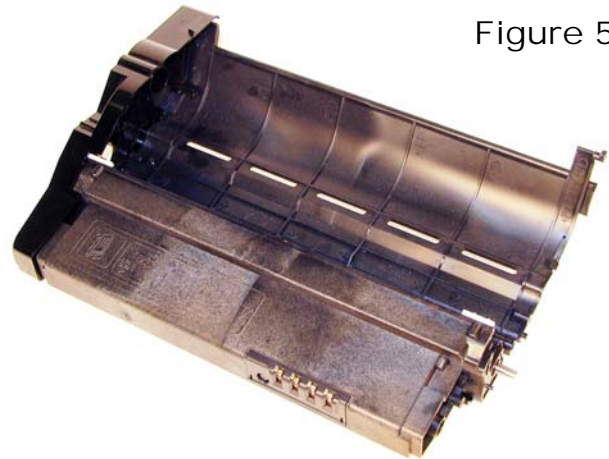

Figure 59
53) Install the waste chamber into the frame. See **Figure 59**